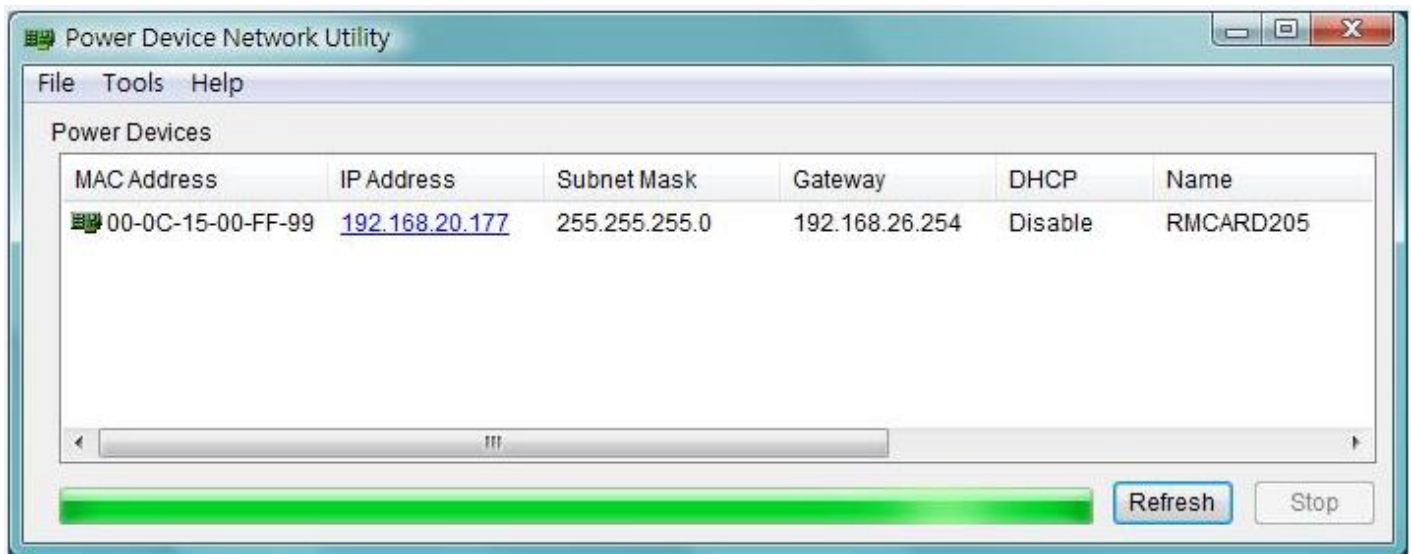

Figure 1. The main window of the "Power Device Network Utility" program.
3. The main dialog of the Power Device Network Utility program is shown in Figure 1. The configuration tool will display all CyberPower Remote Management devices present on the same network subnet. The "Refresh" button is used to search the local network subnet again.